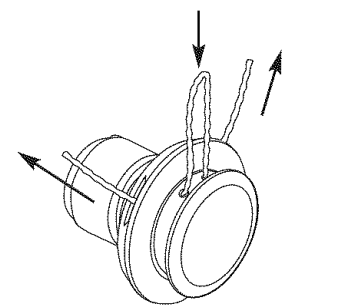

Fig. 12
2. Push the bend in the line until the ends of the line push through the positioning tunnels (Fig. 12).